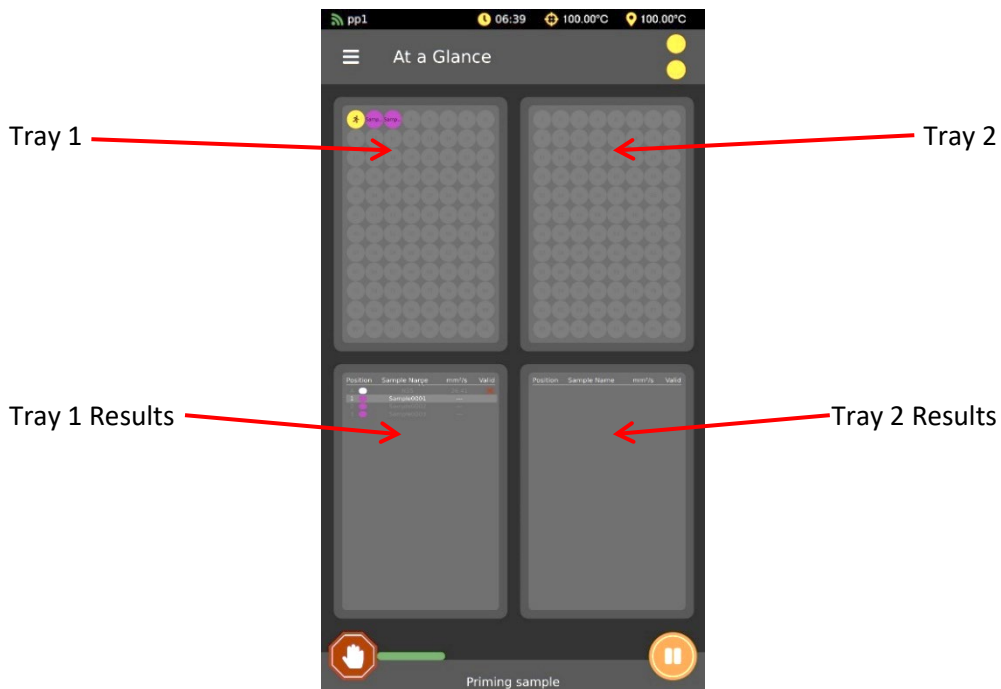

Figure 45: GUI "At a Glance"
2. The **At a Glance** view (the home screen) provides information for sample testing for both trays as well as results. See Figure 45.